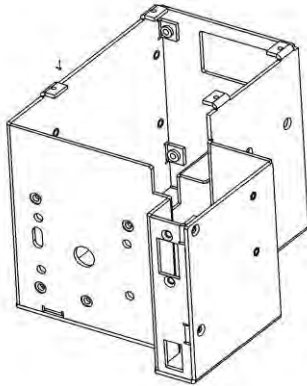

Figure 9 RG Electronics Chassis
- The electronics chassis provides a stable and rigid platform to securely mount the console component. Figure 9 shows an image of the electronics chassis. The chassis is made up of a left and right side which are held together by 5 screws which allow for easy serviceability.